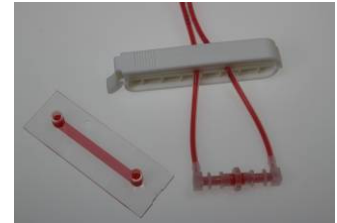

Figure 22: Clamp off tubing before disconnecting the Perfusion Set
- 1) Once the tubes are free of bubbles, clamp off the Perfusion Set tubes between the valve and slide using the hose clip (Figure 22). This allows the two ends of the Perfusion Set to be disconnected without medium running out.